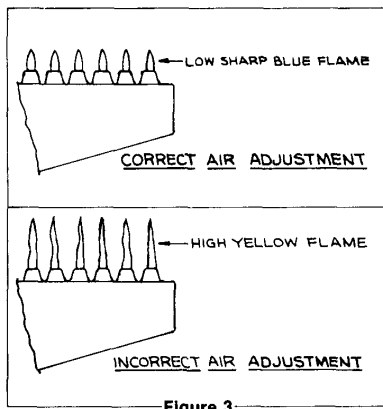

Figure 3
**With** the observation hole cover in place, observe the main burner flame. If a yellow flame exists, sooting can form due to improper burning; therefore, adjustment of the air screw is necessary. It is located behind the air screw cover plate on the combustion chamber door. Remove the plate and turn air screw until the burner flame is a series of sharp blue cones. (See Figure 3.) After completing the adjustment, replace cover plate and tighten securely.